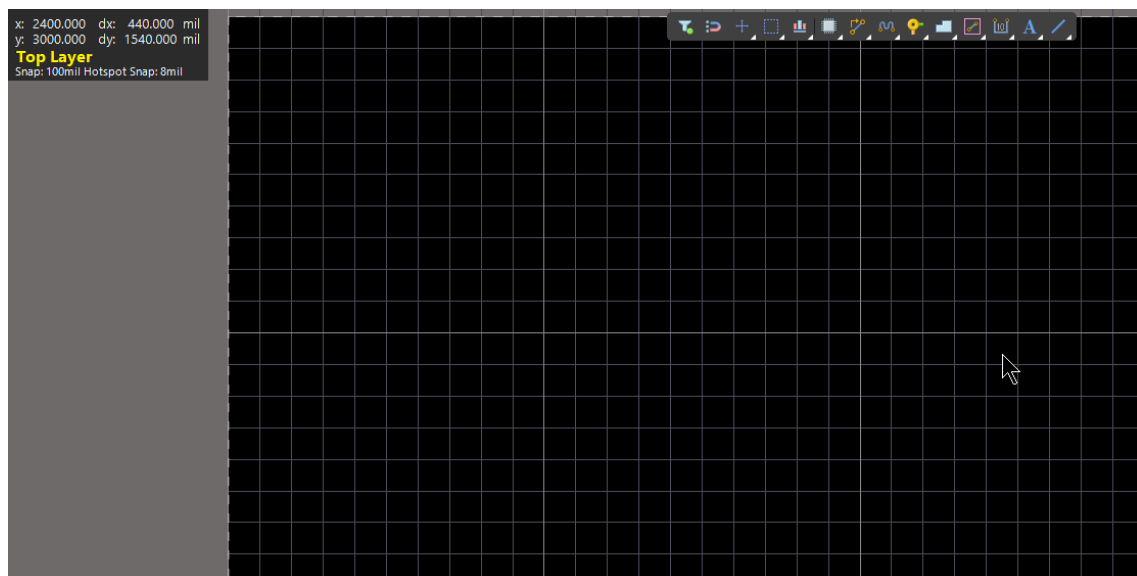

Figure 4. Modified default grid setting
18. Examine the new grid to see the changes as shown in Figure 4 below. Notice that there are 10 fine grids to each coarse grid and the smallest division is 10mil.